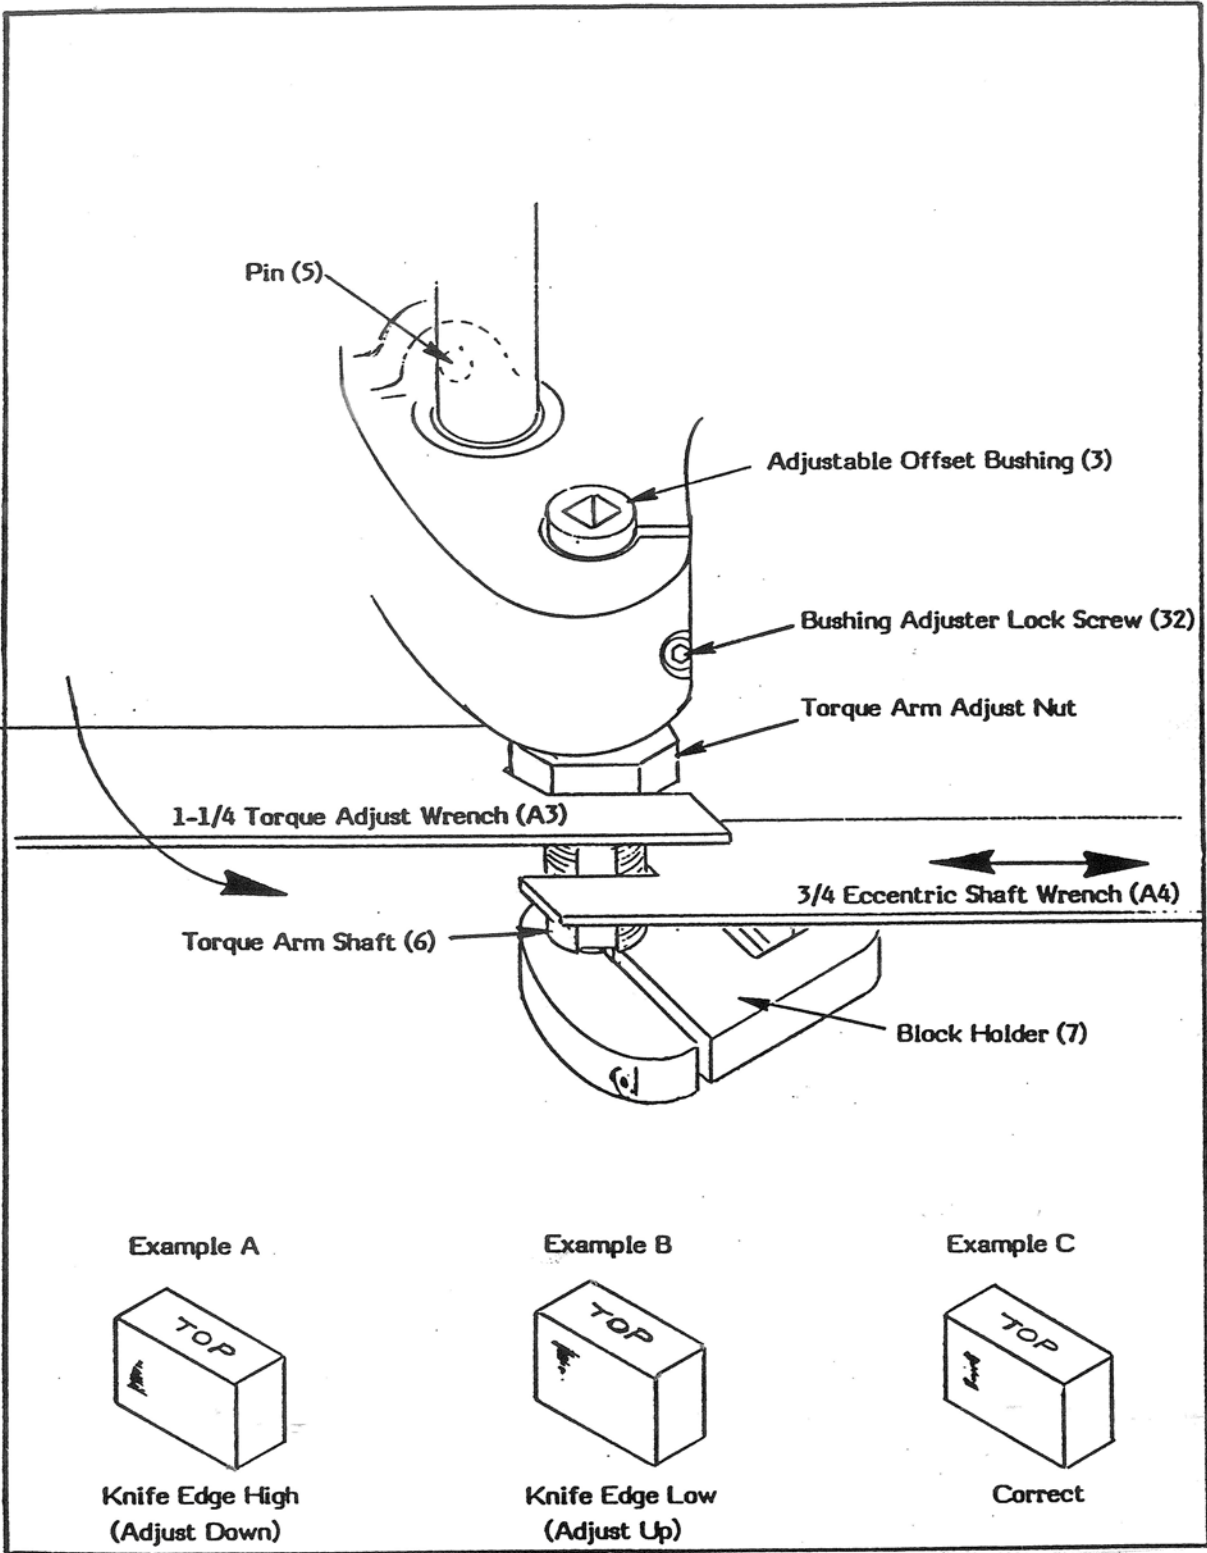

Figure 5 – Adjustment to Correct Trapezoidal Pattern Problems of EP Test Block
5.2.2.8 Precalculated ring block pairs are available as Part No. 206904 with the correction factor already determined. Use of the precalibrated block and ring eliminates the procedures described above in "BLOCK AND RING STANDARDIZING TEST" and "STANDARDIZING BLOCK AND RING" and allows check out of an instrument just as soon as the unit's eccentric bushing is adjusted to fit the blocks wear surface. If necessary, refer to Fig. 5 for adjustment procedure.
Before a test can be run accurately, the machine must be in proper adjustment, as indicated by the rectangular shape in Fig. 5, Ex. C. To test for proper adjustment (or to do a standard test) proceed through the following steps. If alignment is a problem, go to *BLOCK ALIGNMENT*.
5.3.1.11 Observe scar left on block by ring. Refer to Fig.5. Proper alignment of the test block in the holder will be indicated by the appearance of a rectangular scar on the test block (Fig. 5 Ex. C). An improper alignment will be indicated by the appearance of a triangular or trapezoidal shape, (Fig. 5, Ex. A & B). If alignment is proper, proceed to Section C.
- 5.3.2.2 Depending on the shape of the triangle or trapezoid, adjust block holder either upward or downward. If trapezoid appears larger on top than on bottom (Fig. 5, Ex. A), holder must be adjusted downward.
- 5.3.2.4 Place 3/4" eccentric shaft wrench (A4) on threaded shaft flat and place 1-1/4" torque adjust wrench (A3) on torque bushing adjusting nut. Tighten nut pulling eccentric shaft downward in increments of .005 inch (.13 mm) to .010 inch (.25 mm)(1/12 to 1/6 turn) until a rectangular pattern is obtained. If the pattern changes as shown in Fig. 5, Ex. B, Refer to Step 5.3.2.7 below.
- 5.3.2.7 If the trapezoid appears smaller on top than on the bottom (Fig. 5, Ex. B), loosen bushing adjuster lock screw and loosen the adjusting nut one revolution (1/16 inch (1.5 mm)).
- 7.5.11 Adjust cam elevation as described in Fig. 5 and *BLOCK ALIGNMENT*.